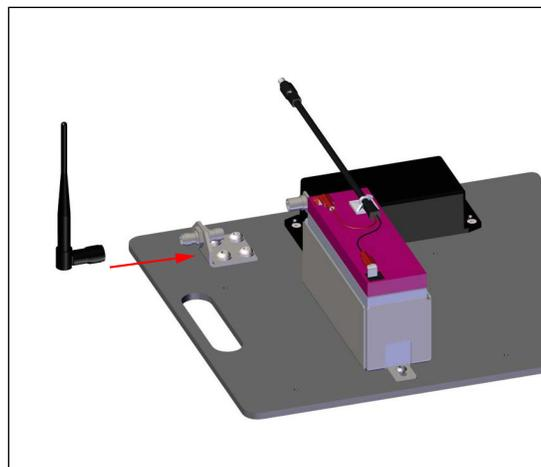

Figure 2-5. Antenna Installation
NOTE: The vertical side of the antenna bracket mount needs to face away from the SENDit transmitter. As shown in Figure 2-5.
9. Set the battery in the battery tray with cable orientated towards the SENDit Transmitter. See Figure 2-5.